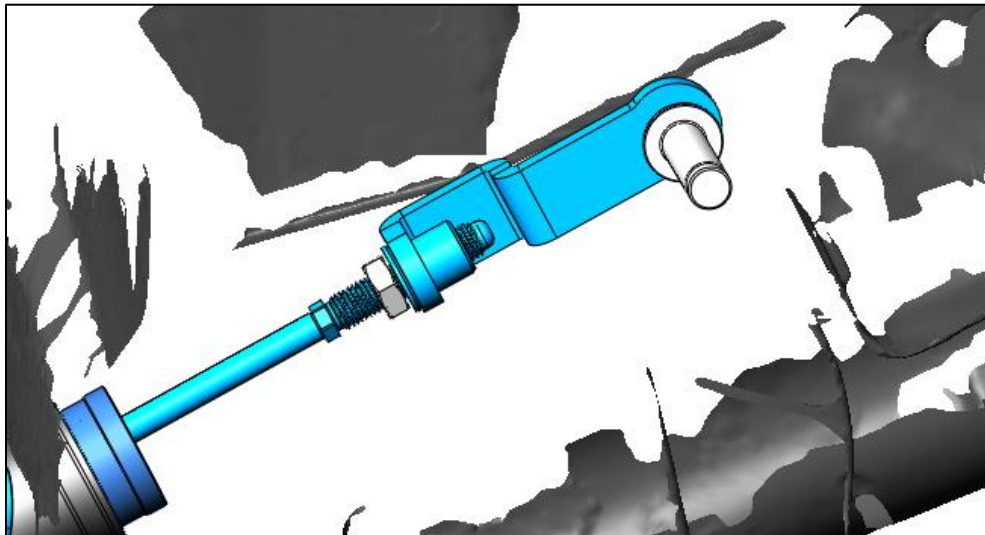

Figure 5: Clutch Rod Linkage Assembly
21. Install the 5/16 thin hex nut and clutch pedal linkage onto the clutch master cylinder as shown in Figure 5.